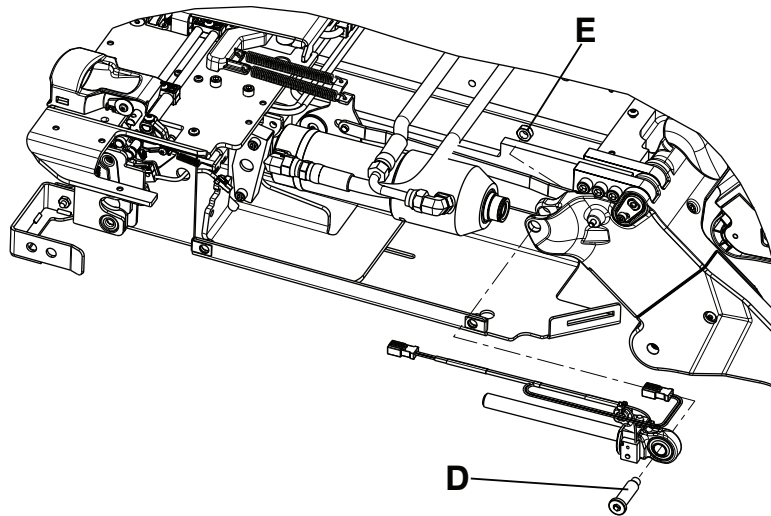

Figure 22 – End cap cylinder pin and nut locations
8. Using a 1/4" hex wrench and a 1/2" combination wrench, remove the end cap cylinder pin (D) and nut (E) (Figure 22).